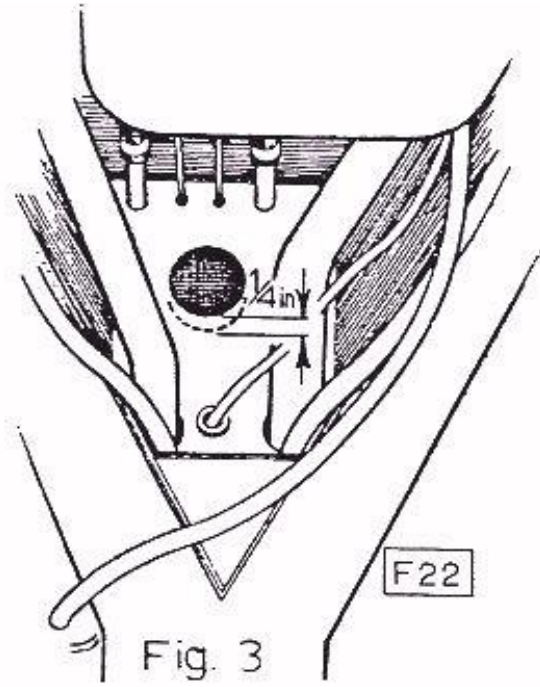

Fig. 3
7. Enlarge the lower half of the hole in the chassis diaphragm by .25 in (6.35 ram) (Fig. 3). Fit new engine mounting bracket and insert new rear longitudinal link (See Fig. 4).